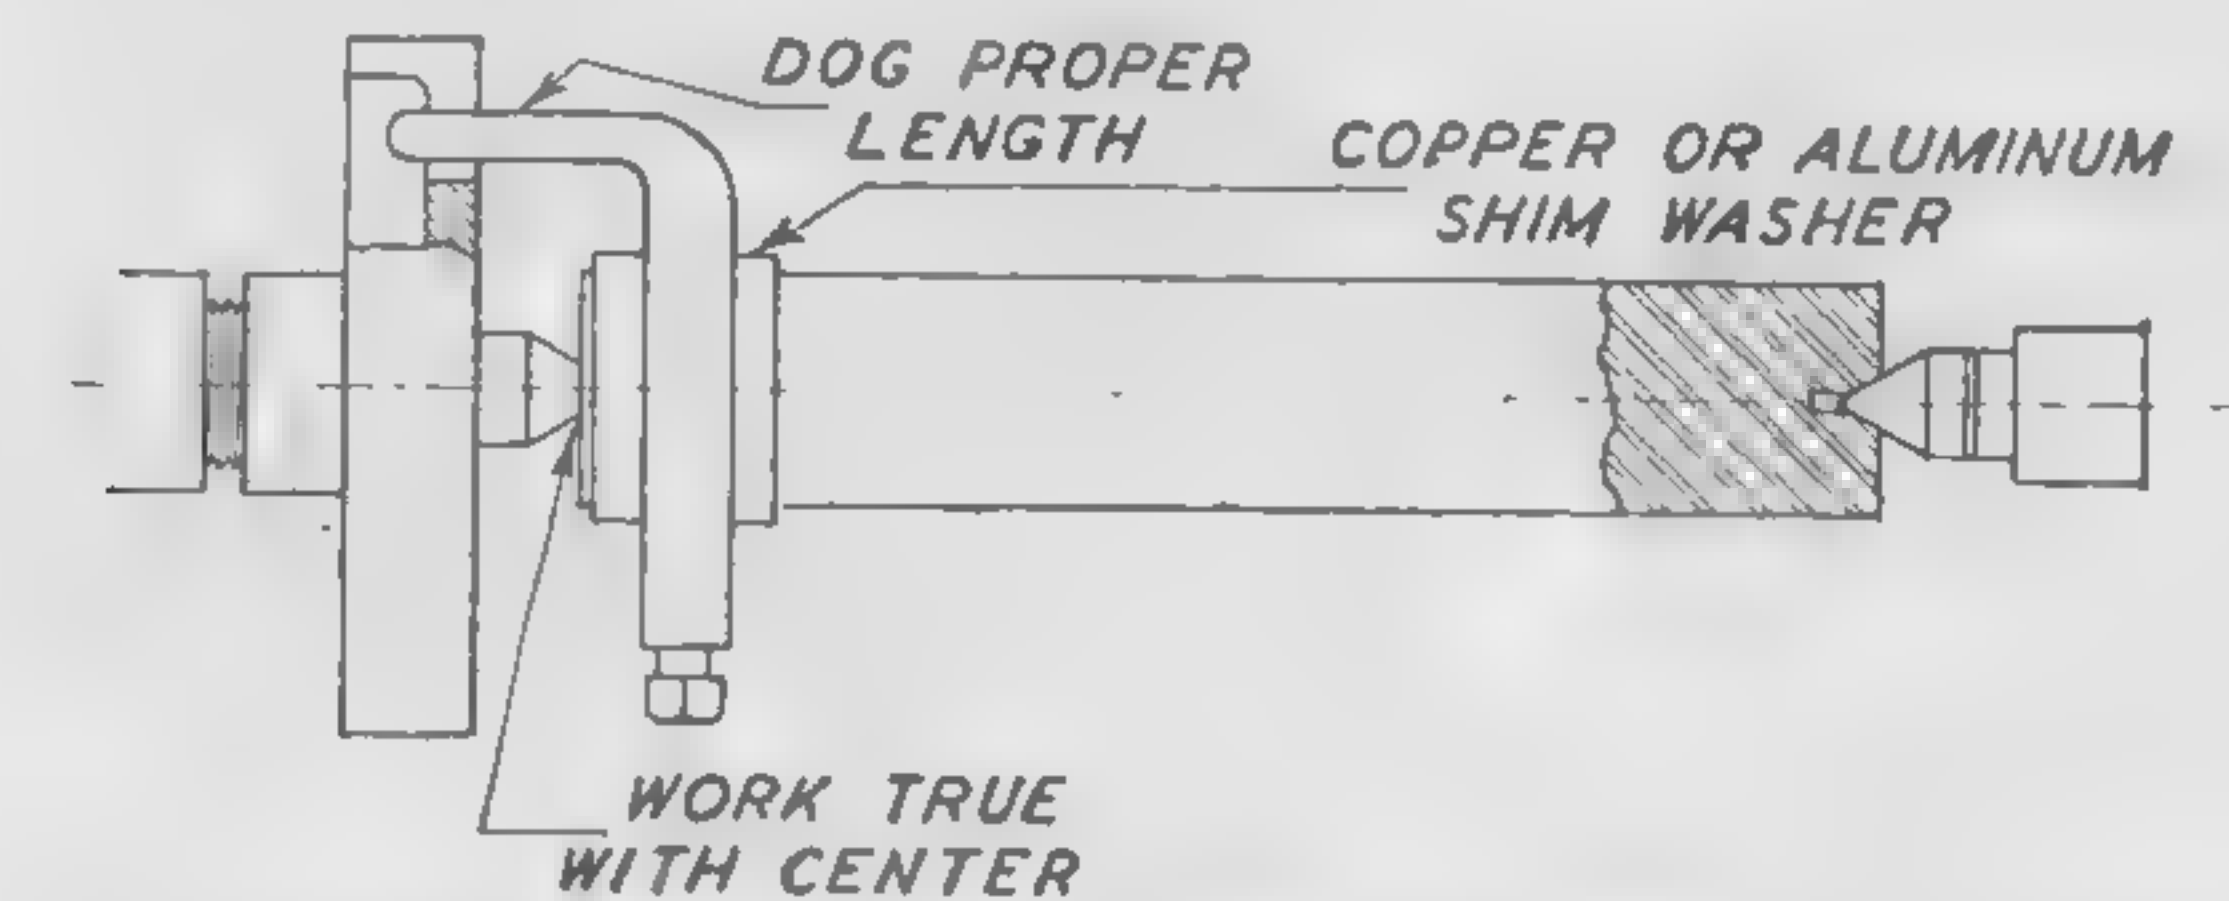

Fig. 8. Work Properly Mounted Between Centers with Lathe Dog Properly Used
• HOW TO USE THE LATHE DOG. Figs. 8 and 9 show the correct and incorrect ways to mount a lathe dog. Notice the piece of material between the dog and the work to protect the finished surface.